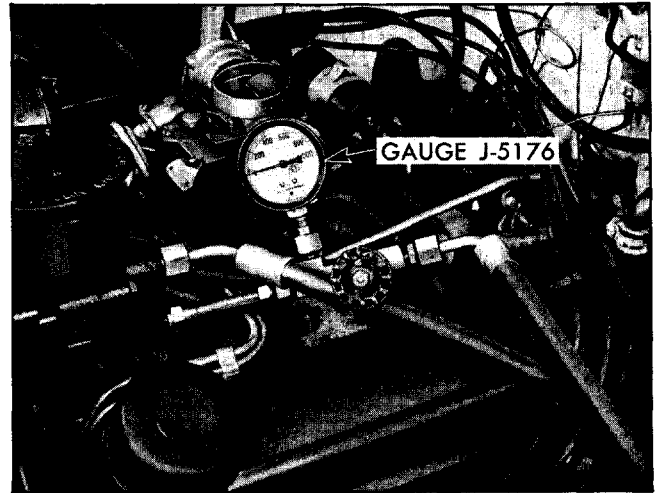

Fig. 9-53 Pressure Gauge J-5176 Installed
1. Install 0-1000 pound gauge, tool J-5176, in pressure line between pump and gear (Fig. 9-53). Turn valve to "open" position.